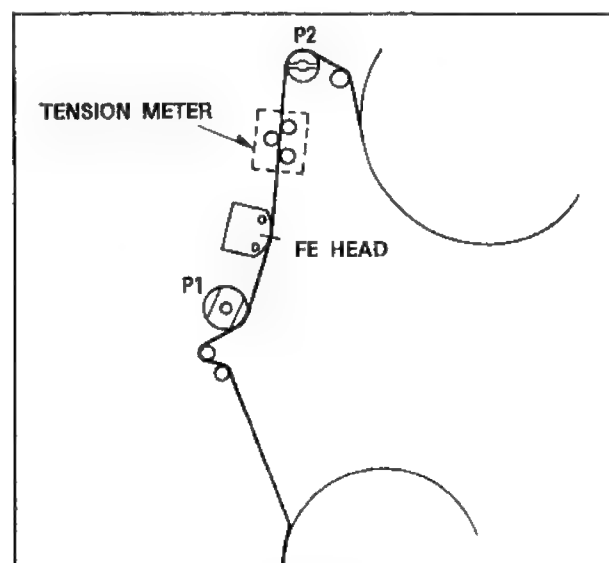

Fig.M27
2. Insert the back tension meter into the path of the tape and confirm the back tension to be within specification as shown in Fig.M27.